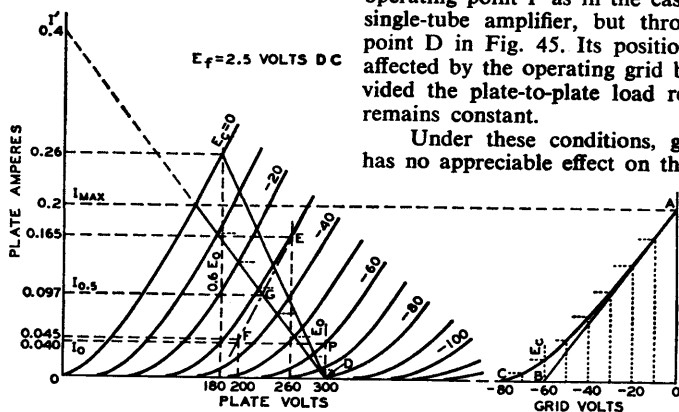

Fig. 45—Graphic calculations for class AB₁ amplifier using a power triode. Fig. 46—Instantaneous curve for class AB₁ amplifier.
In class AB₁ push-pull amplifier service using triodes, the operating conditions may be determined graphically by means of the plate family if E_o , the desired operating plate voltage, is given. In this service, the dynamic load line does not pass through the operating point P as in the case of the single-tube amplifier, but through the point D in Fig. 45. Its position is not affected by the operating grid bias provided the plate-to-plate load resistance remains constant.
In general, for any load line through point D, Fig. 45, the plate-to-plate load resistance in ohms of a push-pull amplifier is $R_{pp} = 4E_o/I'$, where I' is the plate-current value in amperes at which the load line as projected intersects the plate-current axis, and E_o is in volts. This formula is another form of the one given under push-pull class A amplifiers, $R_{pp} = 4(E_o - 0.6E_o)/I_{max}$, but is more general. Power output = $(I_{max}/\sqrt{2})^2 \times R_{pp}/4$, where I_{max} is the peak plate current at zero grid volts for the load chosen. This formula simplified is $(I_{max})^2 \times R_{pp}/8$. The maximum-signal average plate current is $2I_{max}/\pi$ or $0.636 I_{max}$; the maximum-signal average power input is $0.636 I_{max} \times E_o$.
Example: Fig. 45 illustrates the application of this method to a pair of power triodes operated at $E_o = 300$ volts. Each tube has a plate-dissipation rating of 15 watts. The method is to
the plate family and the load line. Fig. 46 is a curve of instantaneous values of plate current and dc grid-bias voltages taken from Fig. 45. Values of grid bias are read from each of the grid-bias curves of Fig. 45 along the load line and are transferred to Fig. 46 to produce the curved line from A to C. A tangent to this curve, starting at A, is drawn to intersect the grid-voltage abscissa. The point of intersection, B, is the operating grid bias for fixed-bias operation. In the example, the bias is -60 volts. Refer back to the plate family at the operating conditions of plate volts = 300 and grid bias = -60 volts; the zero-signal plate current per tube is seen to be 0.04 ampere.
As in the case of the push-pull class A amplifier, the second-harmonic distortion in a class AB₁ amplifier using triodes is very small and is largely canceled by virtue of the push-pull connection. Third-harmonic distortion, however, which may be larger than permissible, can be found by means of composite characteristic curves. A complete family of curves can be plotted, but for the present purpose only the one corresponding to a grid bias of one-half the peak grid-voltage swing is needed. In the example, the peak grid voltage per tube is 60 volts, and the half value is 30 volts. The composite curve, since it is nearly a straight line, can be constructed with only two points (see Fig. 45). These two points are obtained from deviations above and below the operating grid and plate voltages.
These steps provide points at 260 volts and 0.165 ampere (E), and at 200 volts and 0.045 ampere (F). A straight line through these points is the composite curve for a bias of -30 volts, shown as a long-short dash line in Fig. 45. At the intersection of the composite curve and the load line, G, the instantaneous composite plate current at the point of one-half the peak signal swing is determined. This current value, designated $I_{0.5}$ and the peak plate current, I_{max} , are used in the following formula to find the peak value of the third-harmonic component of plate current.